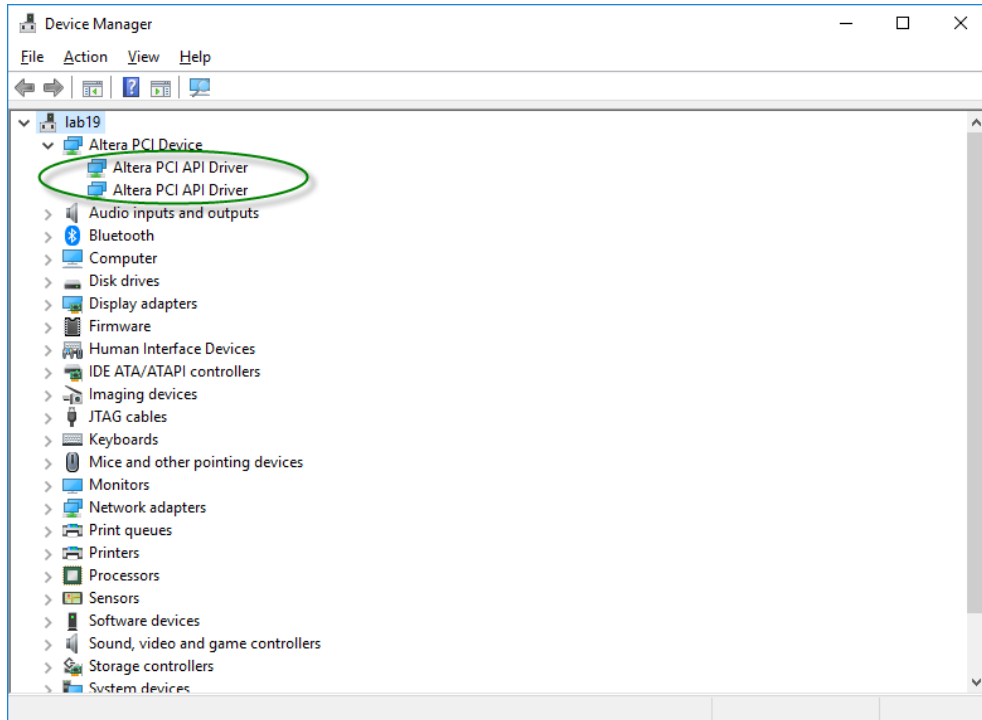

Figure 7-26 Screenshot of two FPGA PCIe devices are detected
6. Make sure there are two Altera PCI API drivers enumerated by checking the Windows Control panel as shown in **Figure 7-26**.